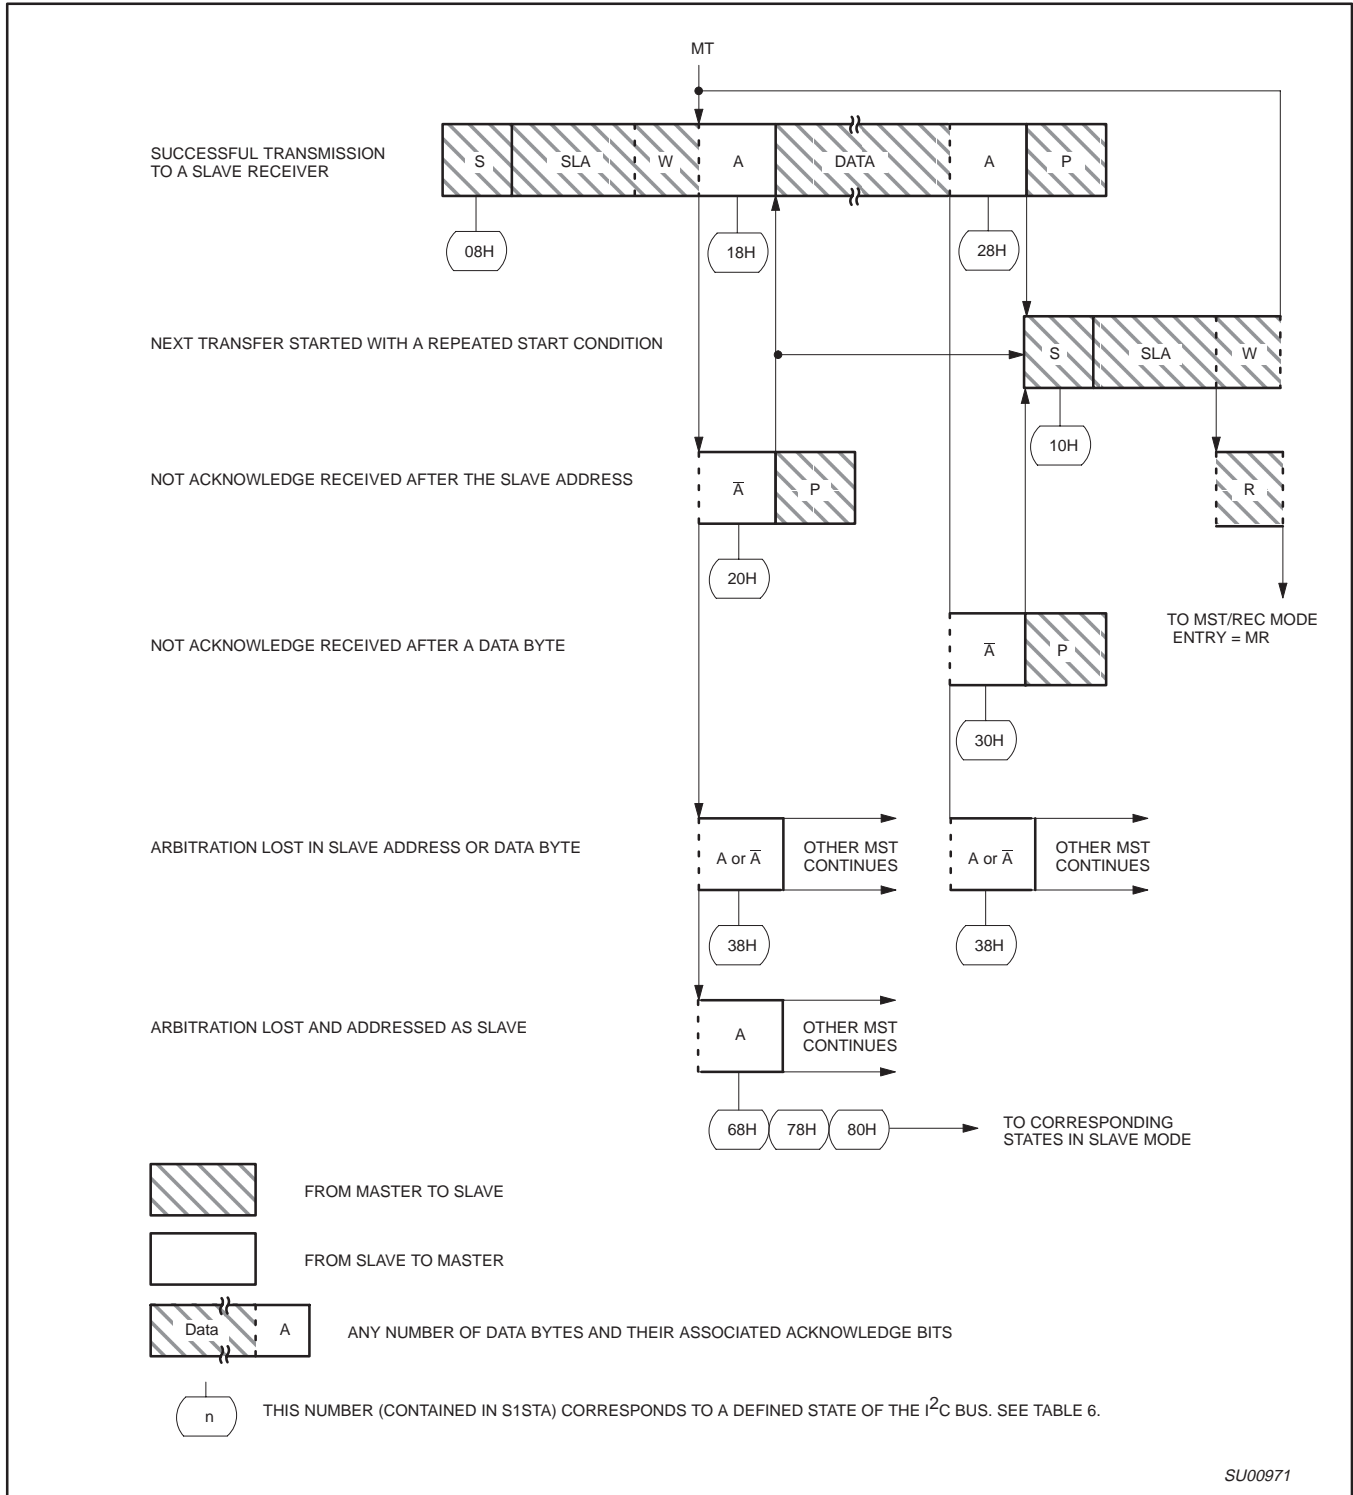

Figure 40. Format and States in the Master Transmitter Mode
Data transfers in each mode of operation are shown in Figures 40–43. These figures contain the following abbreviations:
**Master Transmitter Mode:** In the master transmitter mode, a number of data bytes are transmitted to a slave receiver (see Figure 40). Before the master transmitter mode can be entered, S1CON must be initialized as follows: